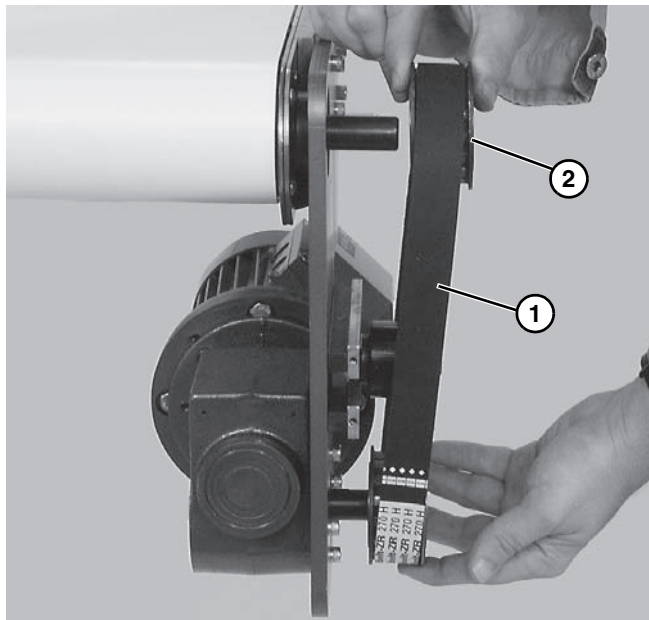

Figure 14
- Remove timing belt (Figure 14, item 1).
If timing belt does not slide over pulley flange, loosen driven pulley taper-lock screws (Figure 14, item 2) and remove pulley with belt (Figure 14, item 1). For re-installation, see steps 7 thru 11 beginning on page 10.